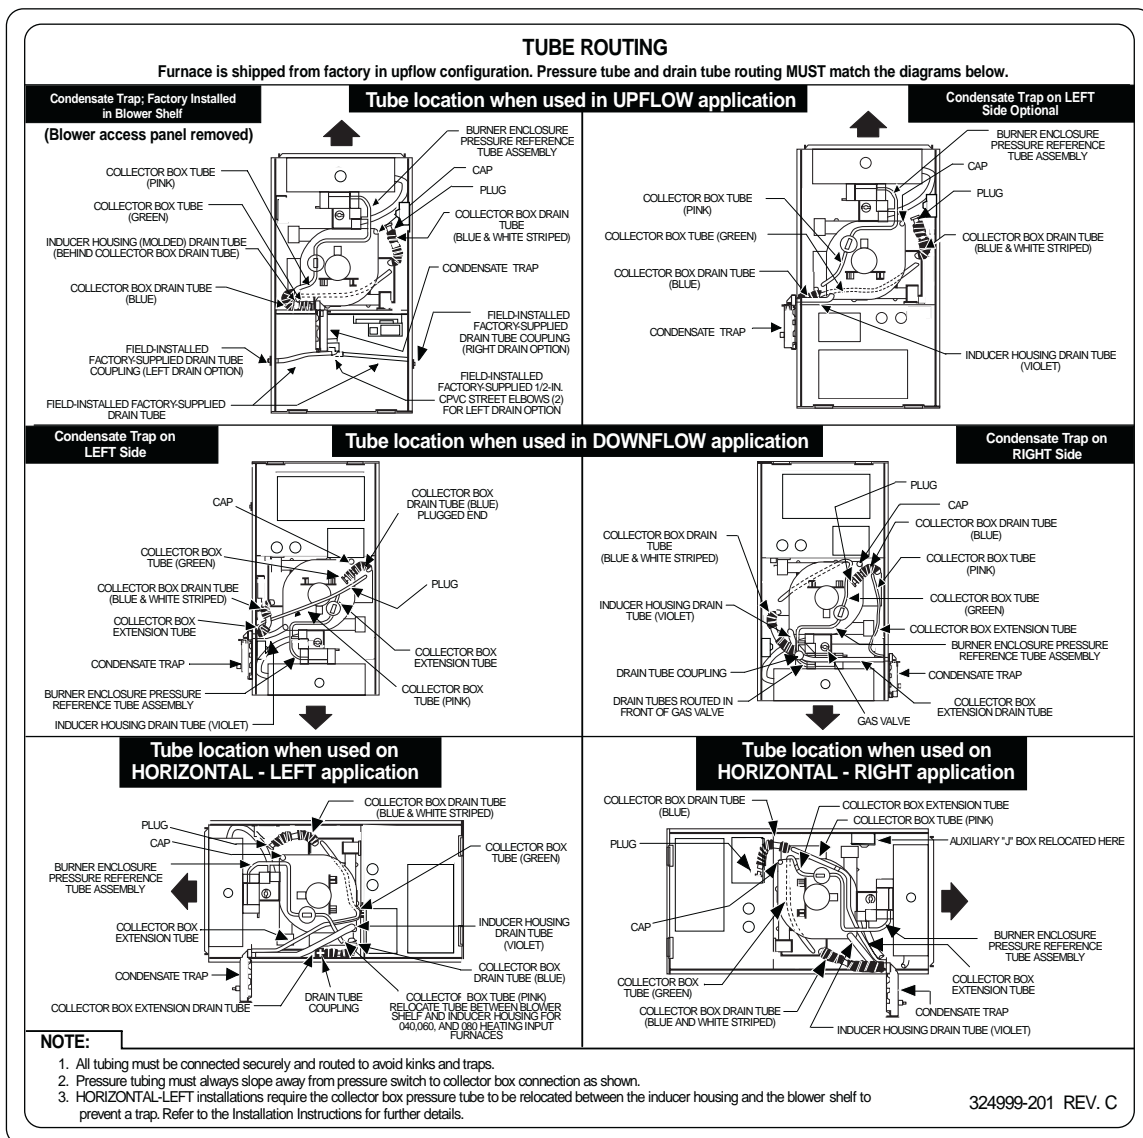

Fig. 8—Furnace Pressure and Drain Tubing Diagram
5. If condensate trap is located in left- or right-hand side of furnace casing, proceed to item 6, otherwise remove trap and tubing as described below. (See top left of Fig. 8.)
9. Reassemble motor and blower wheel by reversing items 8b through 8f. Ensure wheel is positioned for proper rotation. Be sure to reattach ground wire. Tighten setscrew to 140 to 160 in.-lb torque.
- b. Connect condensate trap drain tubes. See Fig. 8 or tubing diagram on main furnace door for proper tube location.
14. Reconnect pressure switch tubes to gas valve and intake housing. Refer to tube routing label on main furnace door for proper tube location. Be sure tubes are not kinked. (See Fig. 8.)
6. Disconnect drain tube from inducer housing. (See Fig. 8.)
12. Reconnect pressure tubes to pressure switch. See diagram on main furnace door for proper location of tubes. Be sure tubes are not kinked. (See Fig. 8.)